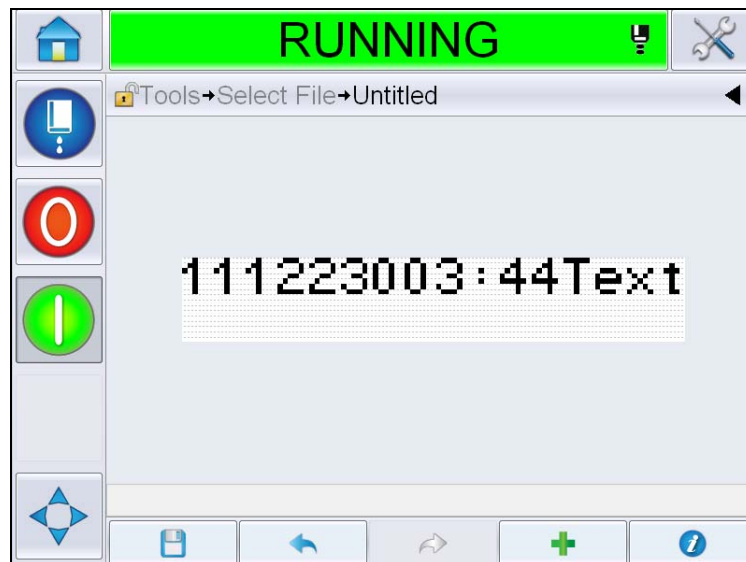

Figure 5-32: Time/Lot Code Field on Message Page
- 12 The message with selected format is displayed on the *Message* page (Figure 5-32). Proceed to Step 18 on Page 5-39 to save the message or go to the next step to add another field.